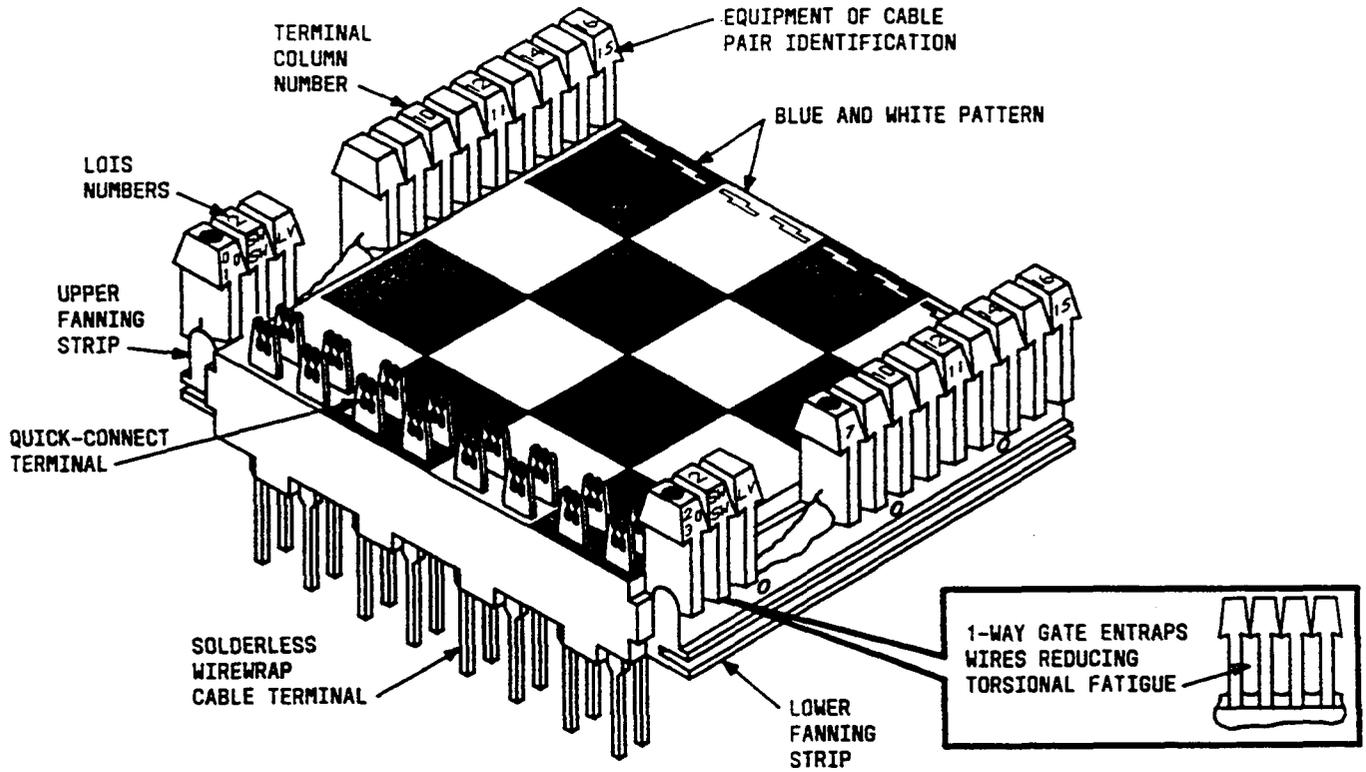
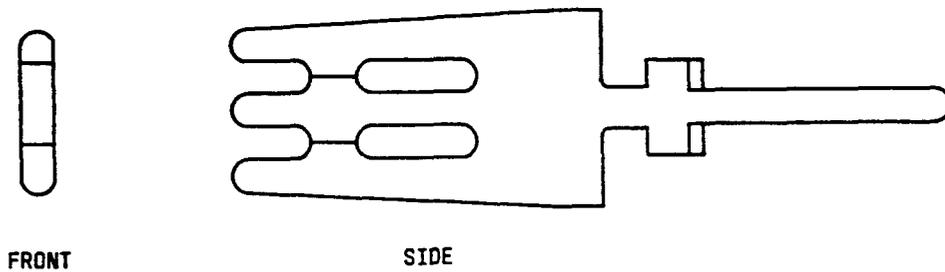

Figure 10—112-Type Connecting Block Features
Figure 11—Views of Quick-Clip Terminal Used on 112-Type Connecting Block
**4.11** Figure 10 shows the features of the 112-type connecting block; Figure 11 shows the bifurcated insulation displacement-type, quick-clip terminal; and Table B lists the various 112-type connecting blocks in application order beginning with tie pairs.